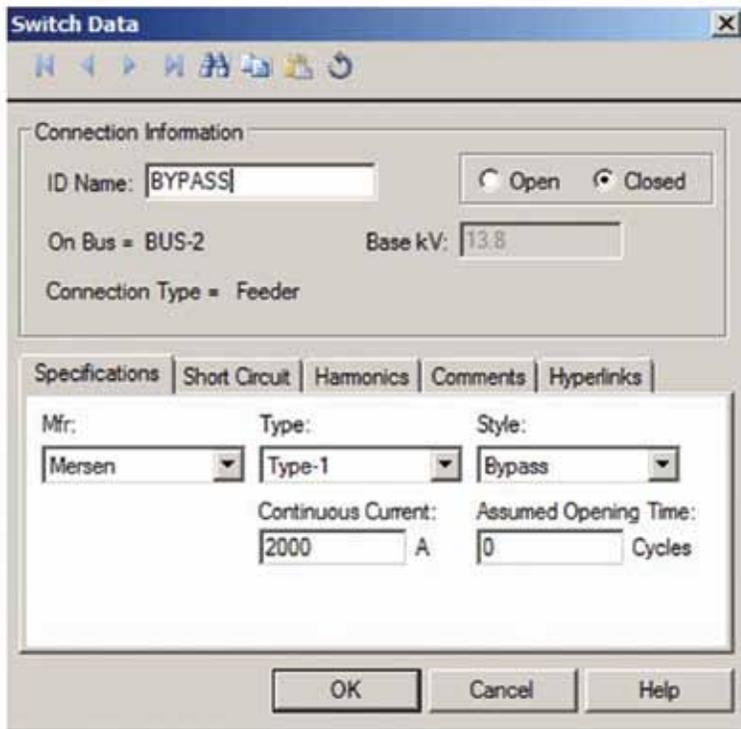

Figure 5. Selection of the bypass switch of the MVCF.
Step 4. The bypass switch is selected as a switch from the equipment tool box. Double click on the switch and make the proper selection as shown in Figure 5. Since the opening time of the bypass switch is built into the MVCF controlled fuse time current curves enter 0 cycles in the text box. Also check the 'Closed' check box.
Step 5. Select the conductors added in (4) and (5) for the MVCF model above. In this example, a 10' length (minimum allowed) of generic 4000A bus is recommended for the bypass switch leg. A 20' length of generic 1000A bus is recommended for the controlled fuse leg.